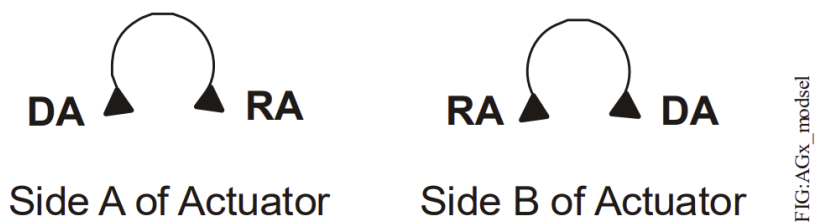

Figure 12: Mode Selection
Actuators have an external mode selection switch to reverse control logic. The switch is accessible from both A and B sides of the actuator as illustrated in **Figure 12**. Actuators are delivered in Direct Acting (DA) mode and can be switched by the user to Reverse Acting (RA) mode.